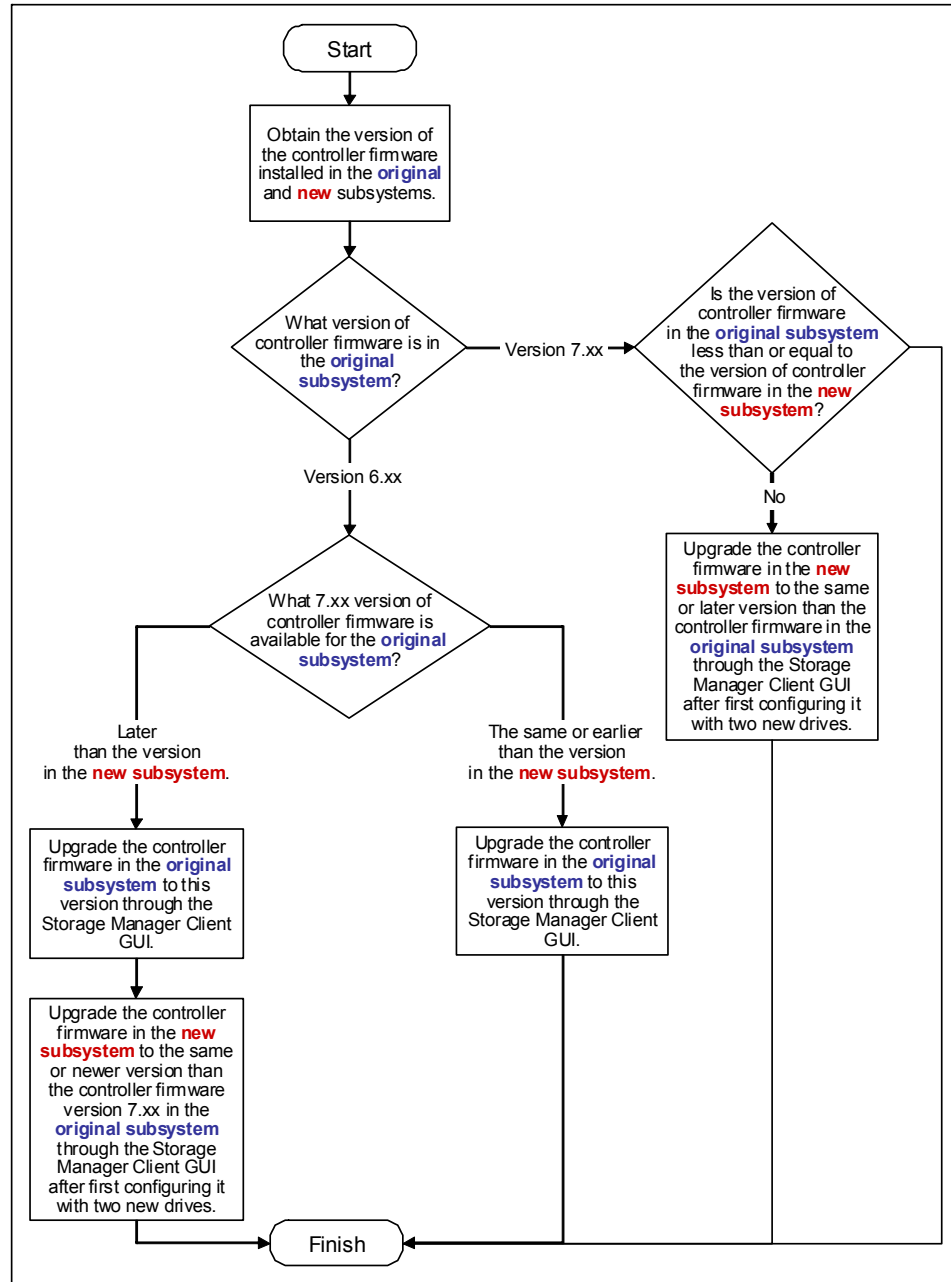

Figure 5-55 Firmware compatibility flow chart for a DS4700 or DS4800 to a DS5000 storage subsystem upgrade
1. Use the flow chart shown in Figure 5-55 on page 349 to determine the firmware version required in the new storage subsystem. To download the latest firmware level, go to the following address: